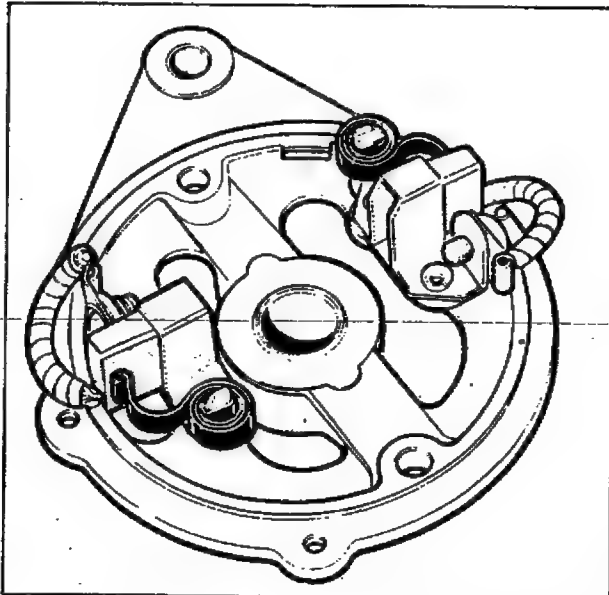

Fig. 3
1. Lift the brushes up into the brush boxes and secure them in that position by positioning the springs at the sides of the brushes—see Fig. 3.